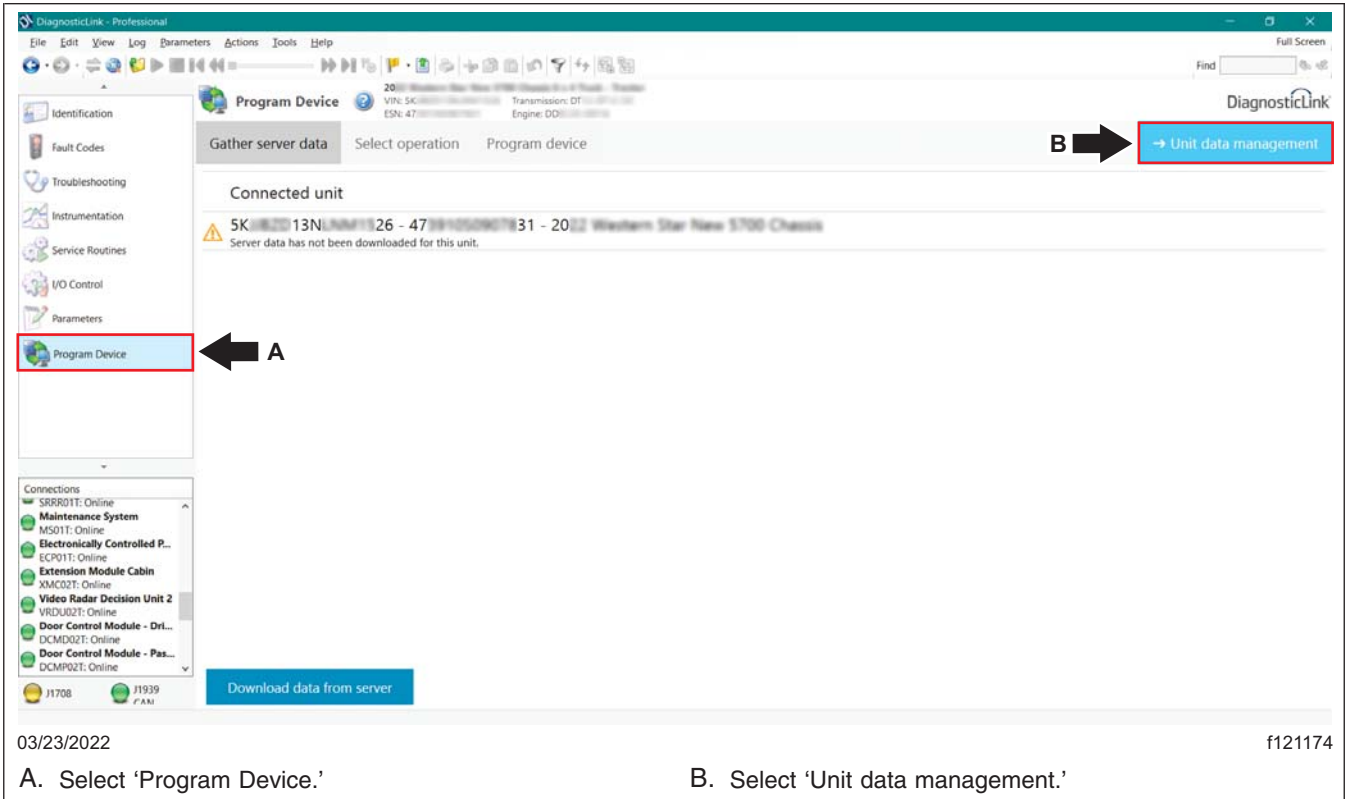

Fig. 6, Selecting Unit Data Management
- Once the parameter write is complete, go to the 'Program Device' tab. Then select 'Unit data management' in the upper right corner. See Fig. 6.